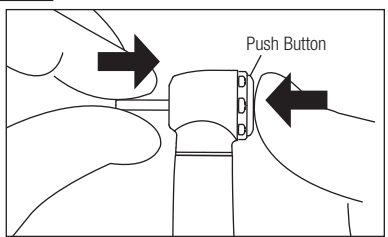

Fig. 6
- 1) Insert the bur until it is correctly seated in place (Fig. 6).